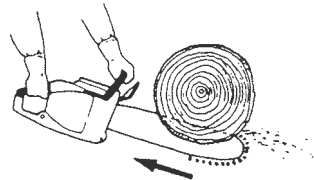

Fig. 23
- When cutting with the upper part of the chain the reactive force will push the saw towards you and away from the wood you are cutting. (Fig. 23)